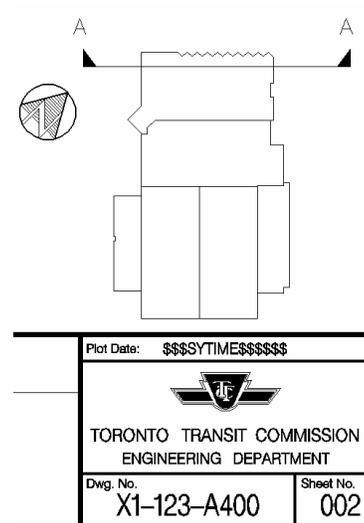

Figure 29b –Key Plan for Elevations and Section Drawings
- show section **cut lines** or **elevation marker** (for sections and elevations) – (see Figure 29b)